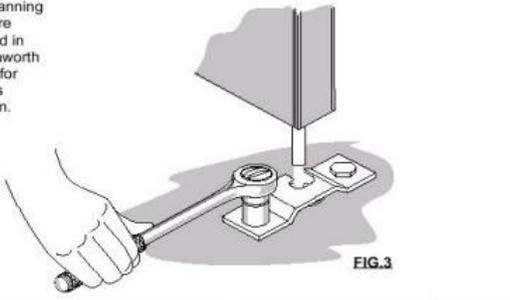

FIG.3
6. Replace anchor plate and install anchor bolts (**Fig. 3**).